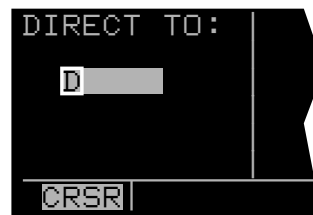

Figure 3-51
2. Turn the left inner knob to select the letter "D" as a waypoint identifier (figure 3-51). "D" is the full identifier of several waypoints in the KLN 900 database.